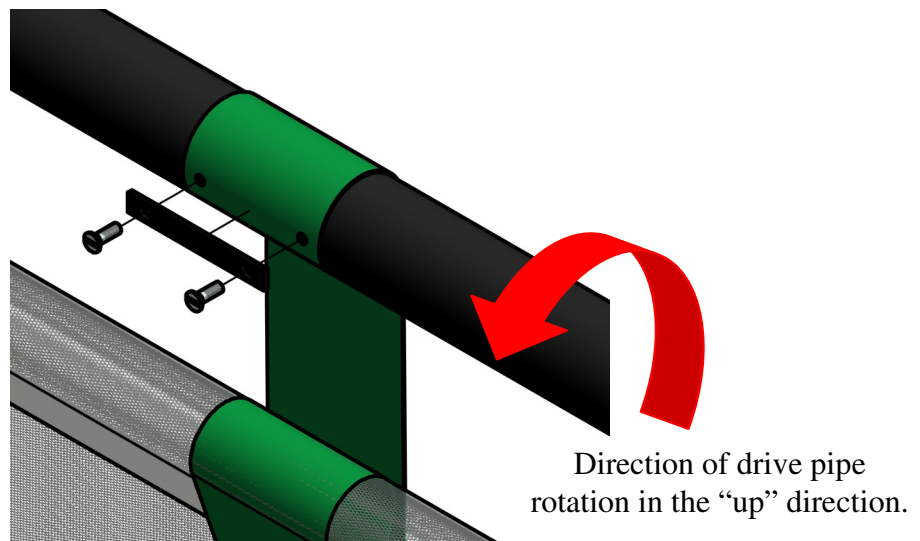

Figure 6. Properly routed belt.
1. Verify which direction your drive pipe will rotate when the hoist is on in the “up” direction. This will determine to which side of the drive pipe the belt will be attached. **Make certain that the belt comes over the TOP of the drive pipe when the curtain is moving in the “up” direction; refer to figure 6.**
Make sure belt rolls over the top of the tube when raising the curtain. DO NOT allow belt to roll under the tube. Refer to Figure 6 for proper direction of roll.